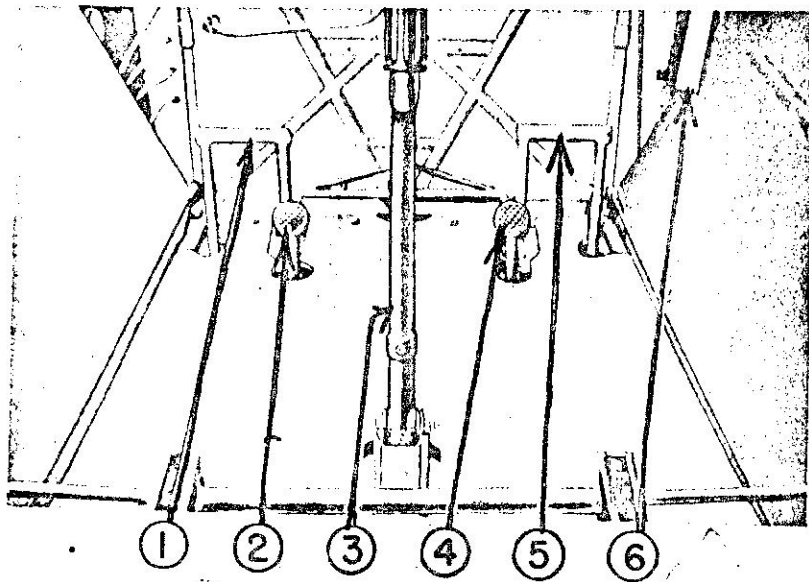

Figure 11—Flight Controls—
b. PARKING BRAKE.—The parking brake is located on the right side of the cabin just under the instrument panel. (See figure 11.) It is engaged by applying both